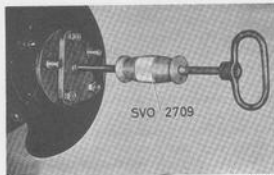

Fig. 4-146. Removing drive shaft
3. Slacken the bolts for the thrust washer. These are slackened through the holes in the drive shaft flange. Pull out the drive shaft with puller 2709, see Fig. 4-146.
Pull out the drive shafts with puller 2709, see Fig. 4-146.